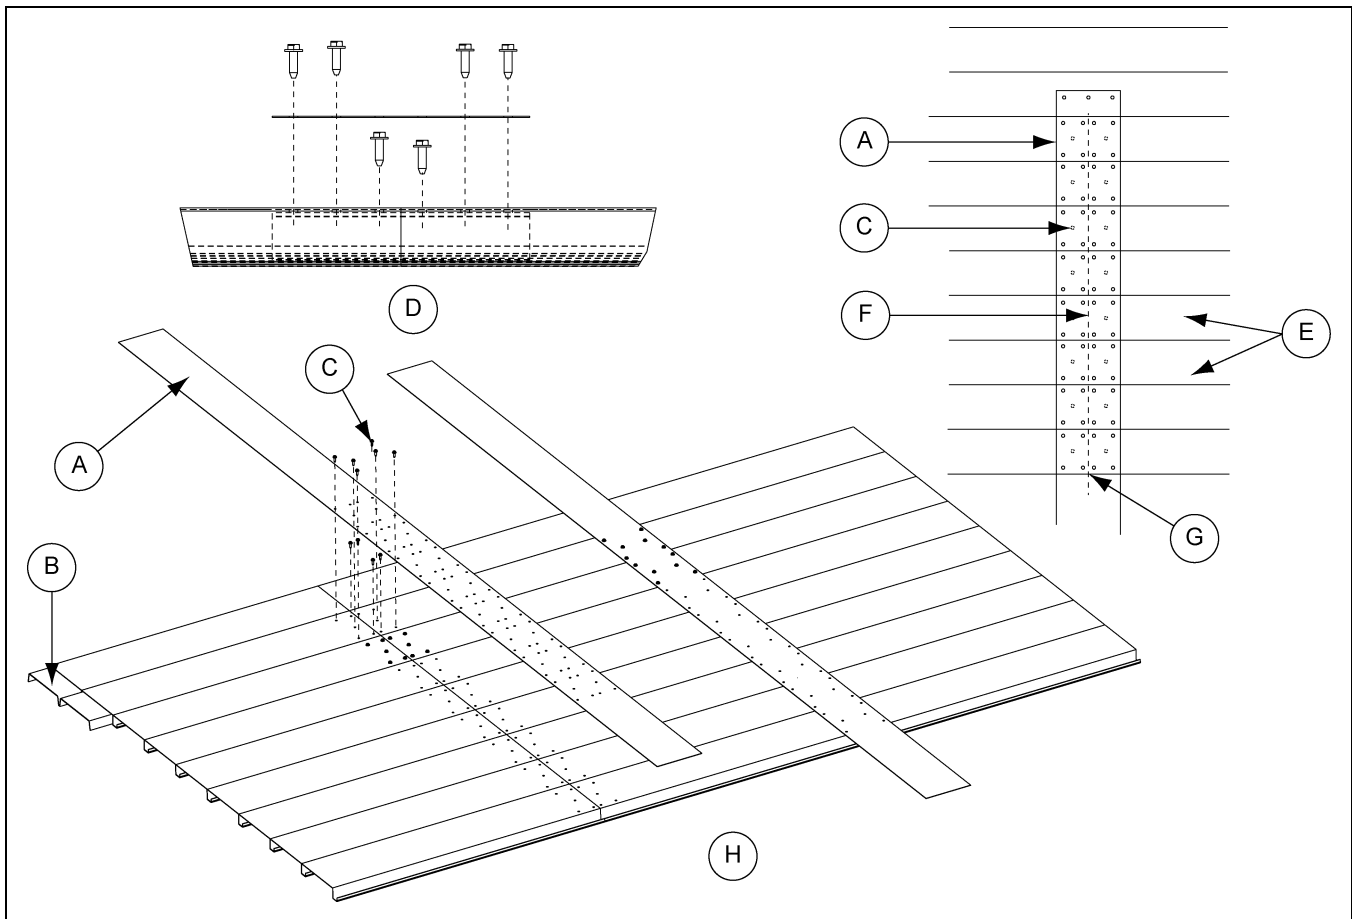

Figure 5G
2. Place the undersplice (B) under the planks. Make sure the undersplice (B) extends 3" across each plank.
3. Install the undersplice (B) to the planks using two (2) self-tapping screws (C) per splice to hold it in place. *(See Figure 5G.)*
4. Place the oversplice (A) over the length of the plank splice seams.
5. Install the oversplice (A) to the planks and undersplices (B) using three (3) self-tapping screws (C) per each undersplice.